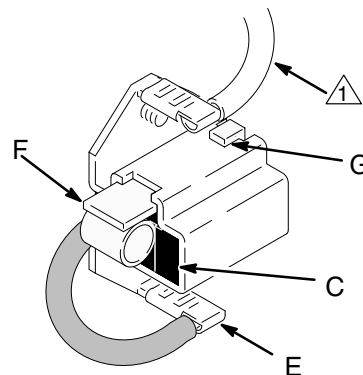

Fig. 17 03881
7. Holding the spring clip (F) at a slight angle, slide the spring clip into the brush holder and hook it over the end of the holder. See Fig. 17. Pull on the spring clip to be sure it stays in place. Connect the brush lead to the blade connector (E).